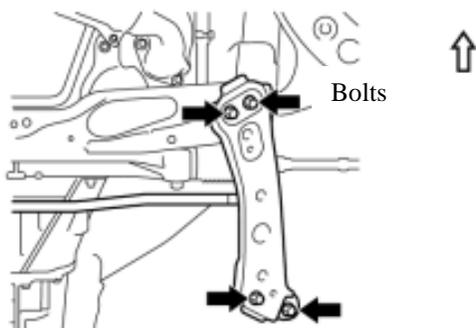

Fig. 2-4
(2) Using a 14mm socket, remove the four bolts from the member sub-assemblies (Right & Left) and discard (Fig. 2-4).
(3) Free the sway bar from the end links.
(4) Remove the right and left member sub-assemblies and bar together.